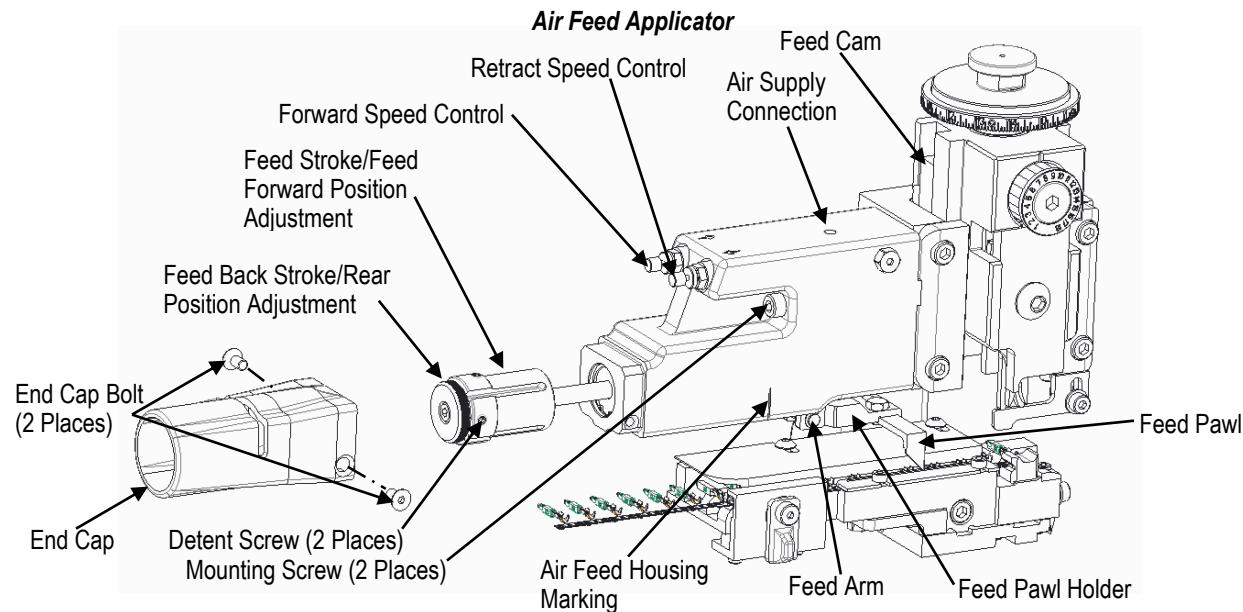

Figure 2
*The air supply connection (shown in Figure 2) must be connected to an air supply line providing continuous pressure of 5.00 to 6.00 bars [72 to 87 psi] at the applicator.*
*There is a marking (vertical etched line) on the air feed housing (shown in Figure 2) to use as a visual aid to ensure that the piston assembly is located within the limits of the air cylinder position. The feed pawl holder must be positioned to the right of the marking. Incorrect feed pawl positioning relative to the marking may contribute to premature failure of the air feed module.*